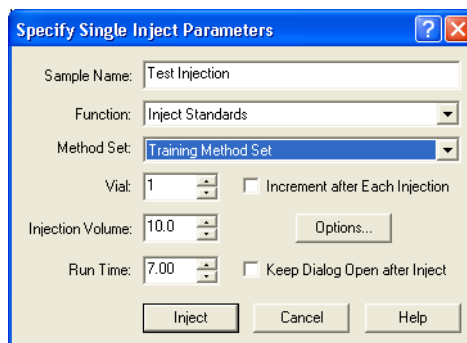

Figure 4-14 Specify Single Inject Parameters Dialog Box
5. Click  (Inject). The Specify Single Inject Parameters dialog box appears (Figure 4-14).